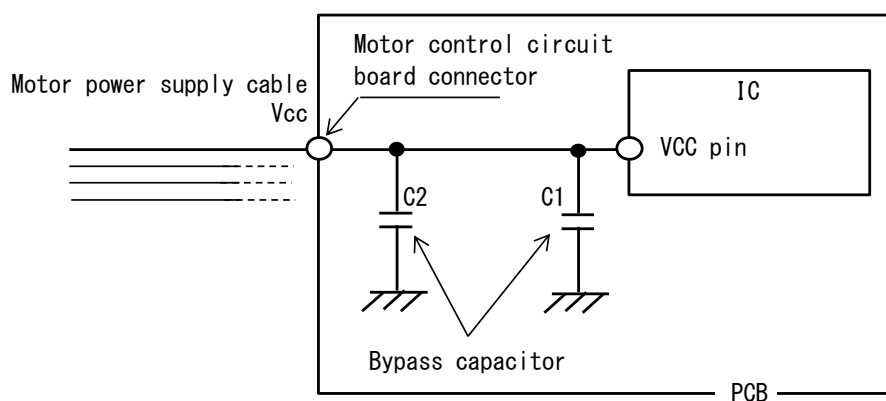

FIGURE 5.5.1 Example of Mounted Surge Suppression Devices
- ① Mount a bypass capacitor C1 near the pin of the IC. Use a capacitor that has excellent frequency characteristics, such as a ceramic capacitor. As a guide, a capacitor of around $1\mu F$ is recommended.
- ② It is more effective to mount a surge suppression device, such as bypass capacitor C2 shown in Fig. 5.5.1, close to the connector of a motor control circuit board.